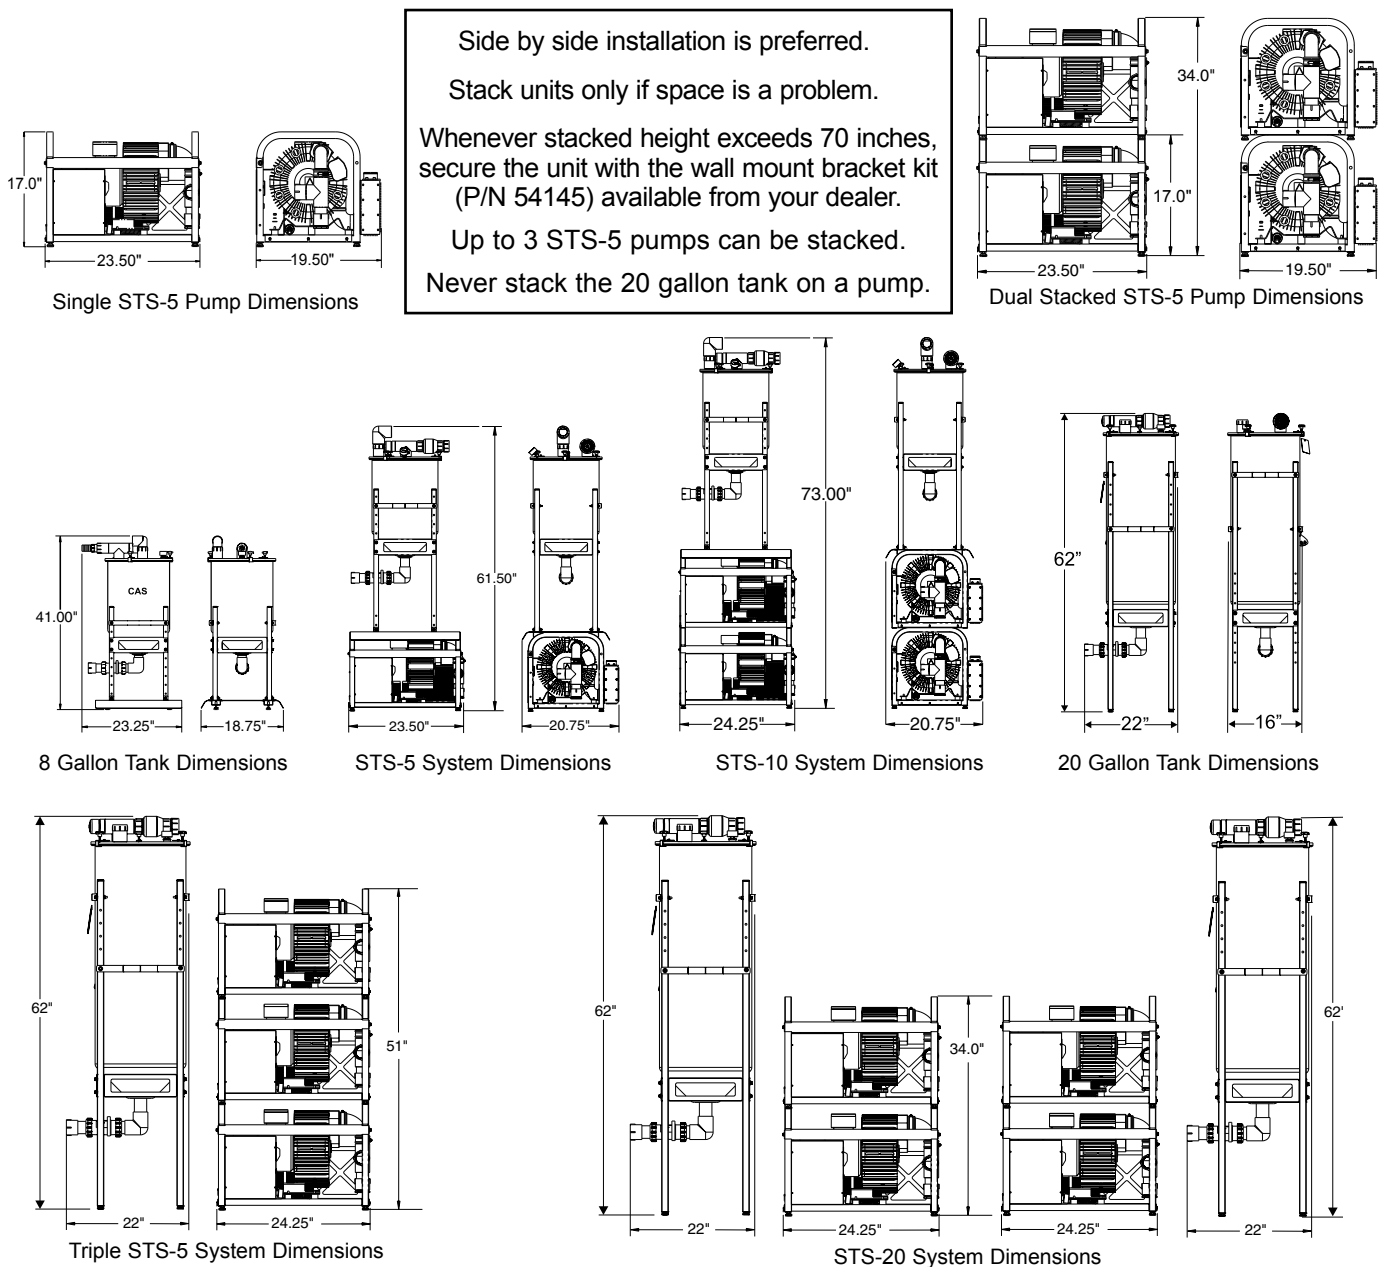

Figure 2. STS-5, STS-10, Triple STS-5 and STS-20 System Configuration Dimensions
Configuration Dimensions. Figure 2 shows the space requirements for the installation of the various STS model configurations. Please note that all CAS heights can be increased by 4 inches and decreased by 6 inches using the adjusting holes in the 4-rail support assembly.
1. Refer to Figure 2 and determine the installation footprint dimensions and connection requirements. Place the CAS tank and STS pump in position.
2. Refer to Figure 2 and determine the installation footprint dimension and connection requirements. Place the CAS tank and STS pumps in position.